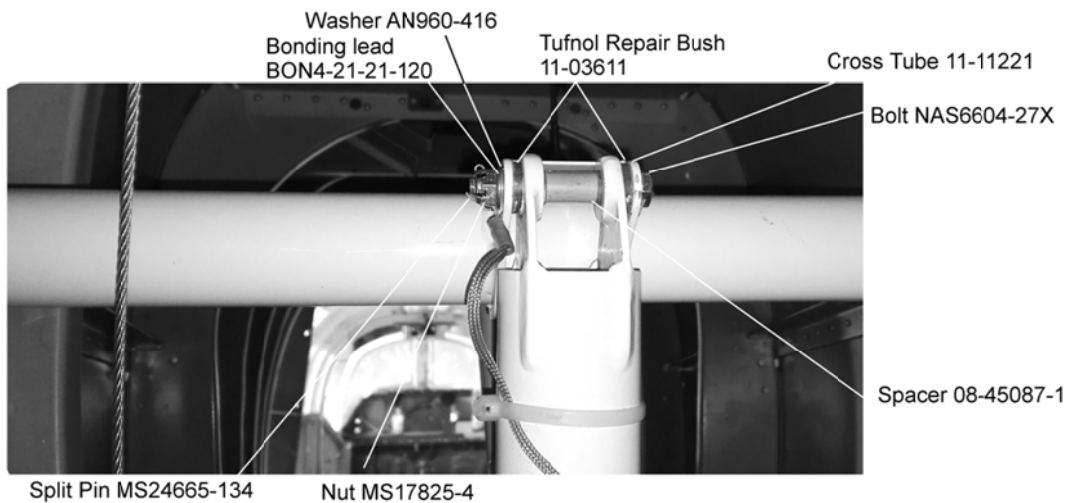

FIGURE 4 ELEVATOR PIVOT JOINT – WITH REPAIR P/N’S
- 12) Connect the Elevator Bellcrank with the Cross Tube IAW Figure 4, replacing existing tufnol bushes P/N 242001-2 (Qty 2) with oversized repair tufnol bushes 11-03611 (Qty 2) and using oversize repair bolt NAS6604-27X.